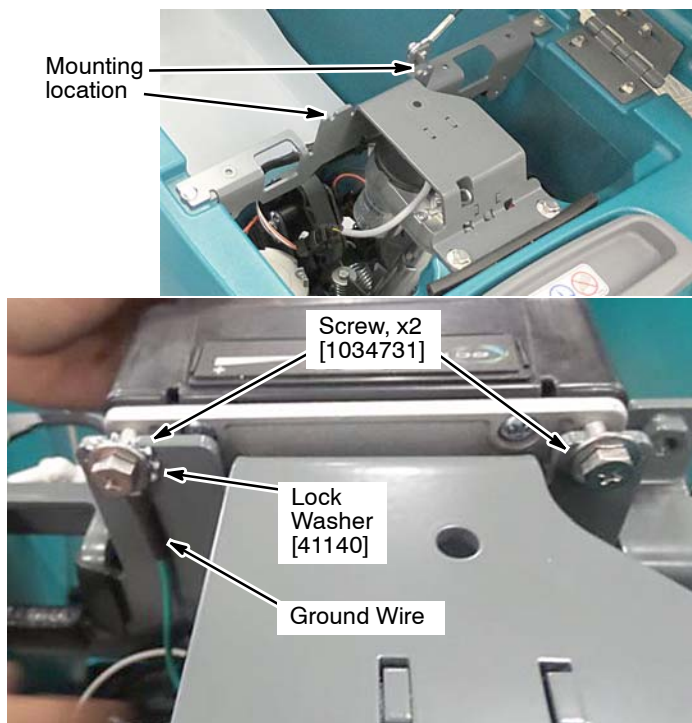

Fig. 6
- Mount the ec-H2O module to the machine bracket using hardware as shown (Figure 6). Connect ground wire using lock washer as shown.